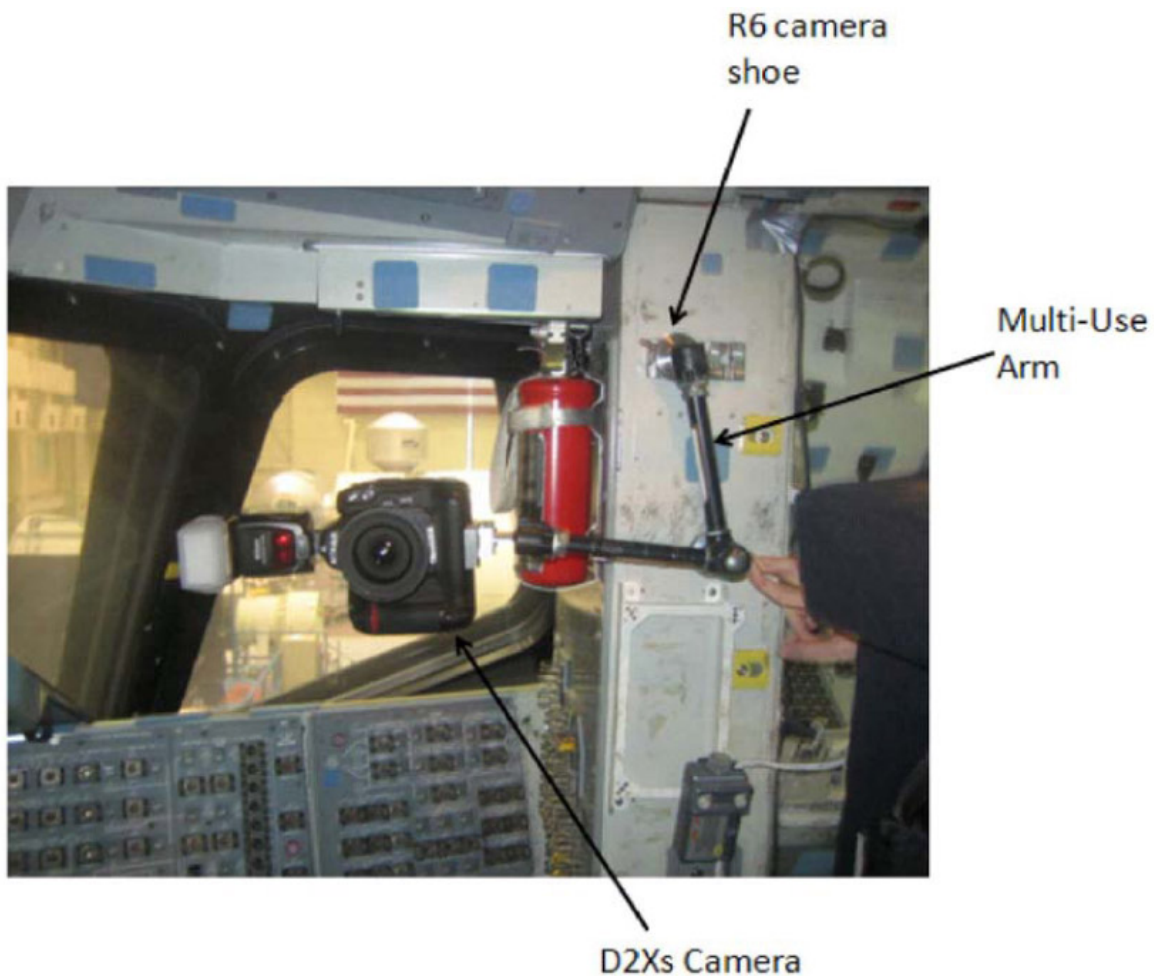

Figure 6. D2Xs Camera Positioned on R6 Camera Shoe.
- 4.5 Position D2Xs Camera on Multi-Use Arm in a vertical orientation (SB -800 Flash towards forward) and install Multi-Use Arm to R6 camera shoe (forward towards window as seen in Figure 6).
Mount D2Xs Camera on Multi-Use Arm such that D2Xs Camera is orthogonal to CDR seat. Refer to Figure 6.